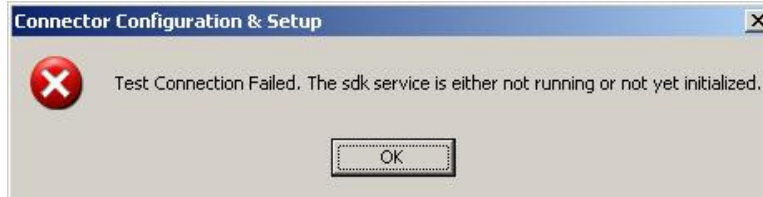
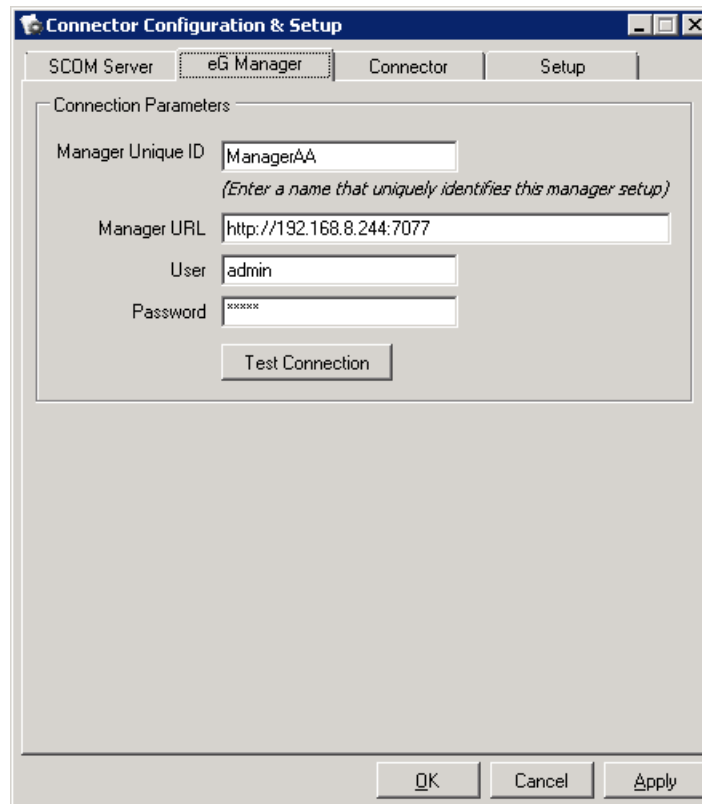

Figure 2.10: Connect to the SCOM server failed
Figure 2.11: Configuring the eG Manager
6. In case of a failure, first click the **OK** button in Figure 2.10 to close the message box. Then, take another look at your specifications, make changes wherever necessary, test the connectivity yet again, and if successful, proceed with your configuration. To proceed, click the **eG Manager** tab page in Figure 2.11. Typically, the eG connector polls the eG manager for discovering the managed components/layers/tests/descriptors/measures from the eG Enterprise system and inserting corresponding monitoring objects and unit monitors in the SCOM server. Using the **eG Manager** tab page of Figure 2.11, you can indicate which eG manager is integrating with the SCOM server and how to connect to it. As part of this exercise, specify the following:
7. Then, click on the **Apply** button in Figure 2.11 to apply the changes.